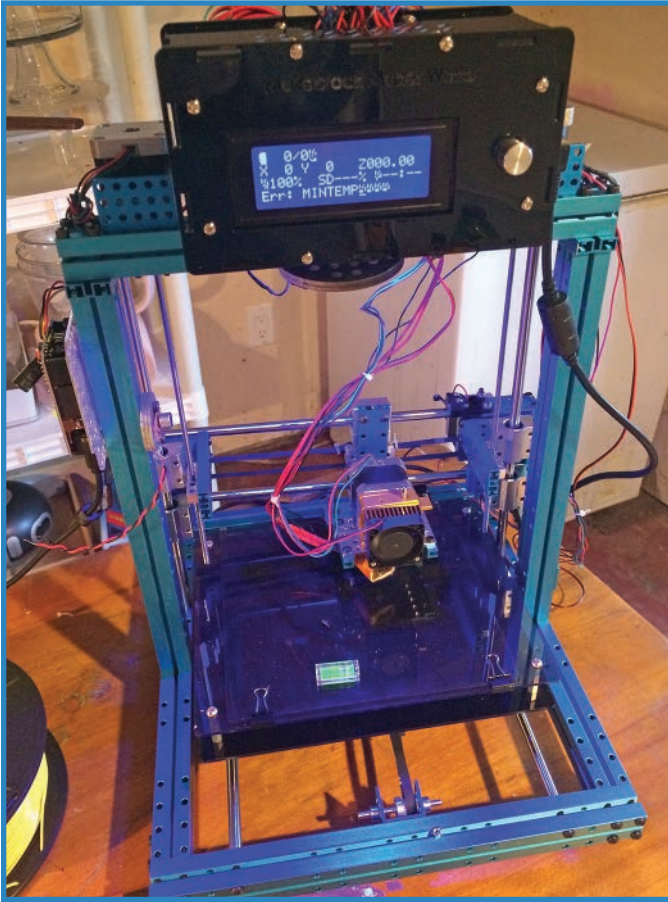

FIGURE 9.8 A 3D printer outputs 3D shapes in plastic.
- **3D printer**—A 3D printer (seen in Figure 9.8) lays down melted plastic filament, building up three-dimensional objects, layer by layer. As with laser patterns, 3D printer designs abound on the Internet, allowing you to riff off of other makers' projects. It's a great way to learn and gets you to a prototype faster than making everything by hand.